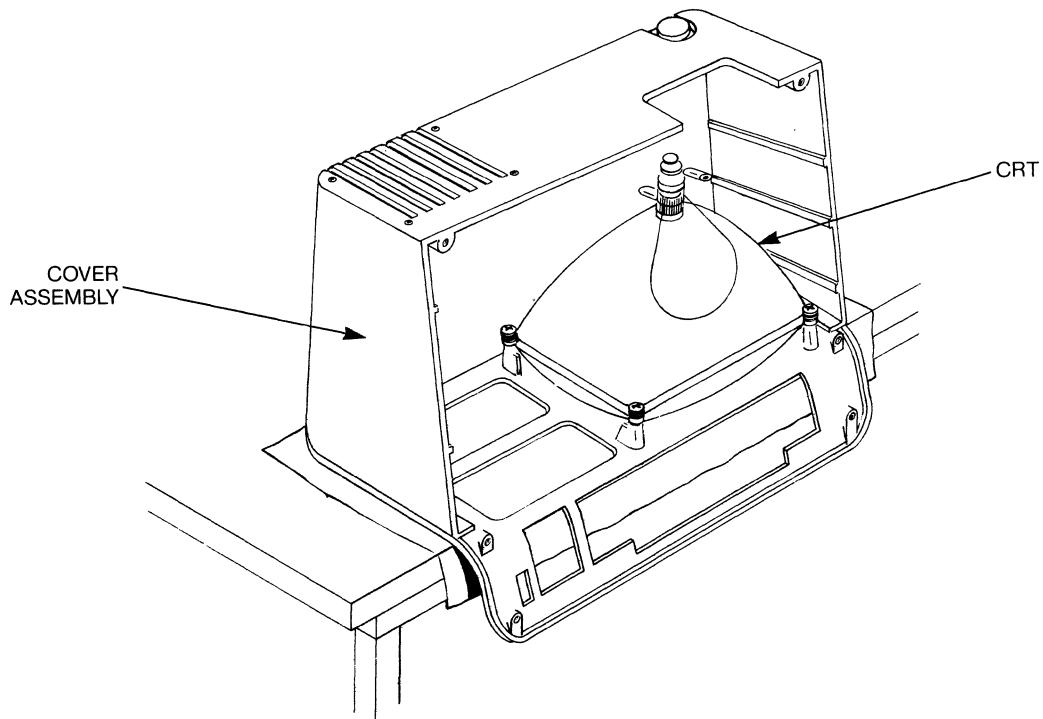

Figure 6-26
- 12) Place the Cover Assembly on the edge of a work bench as shown in Figure 6-26. Use padding on the work bench to prevent the cabinet from being scratched.